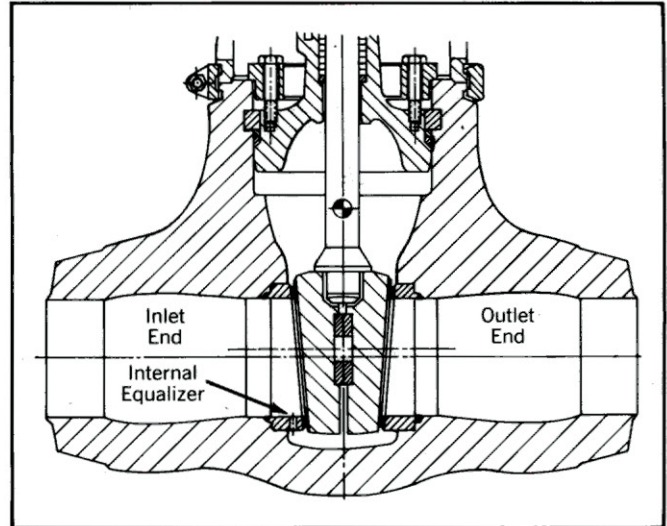

Figure 2 200 valve with internal equalizer.
3. Drill a 1/16" (internal equalizer) hole through the *upstream* seat to provide an internal bonnet vent (Figure 2).